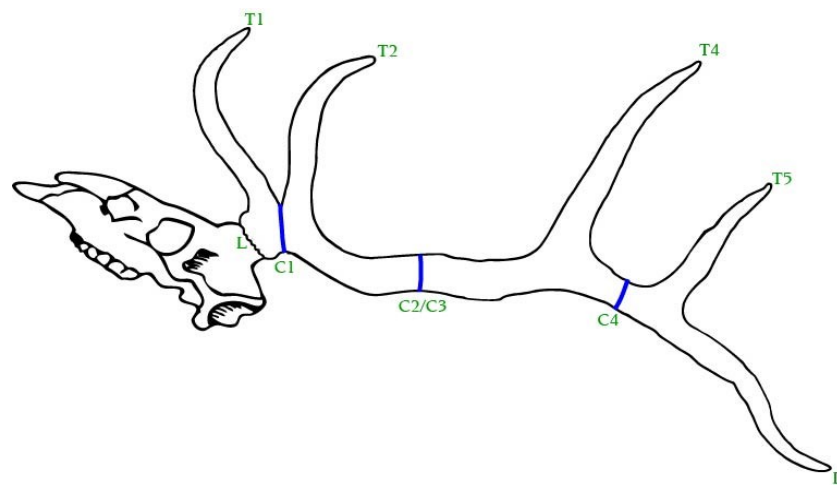

Figure 3
5. Circumference. Use a steel tape with a ring, not one with a hook. Measure the smallest circumference between the T1 and T2, T2 and T3, T3 and T4, and finally between T4 and T5. (Figure 1, C1, C2, C3, C4). Please note that this must be the smallest measurement that can be found and must only be taken between typical points. In case one tine is missing, the circumferences is taken twice at the same place at the smallest point between the two nearest valid tines. As an example, if T3 is missing, C2 and C3 will fall on the same place. (Figure 3.) In case the T5 tine is missing, the circumference needs to be taken halfway between the T4 and the main beam tip; see GDI number 23.